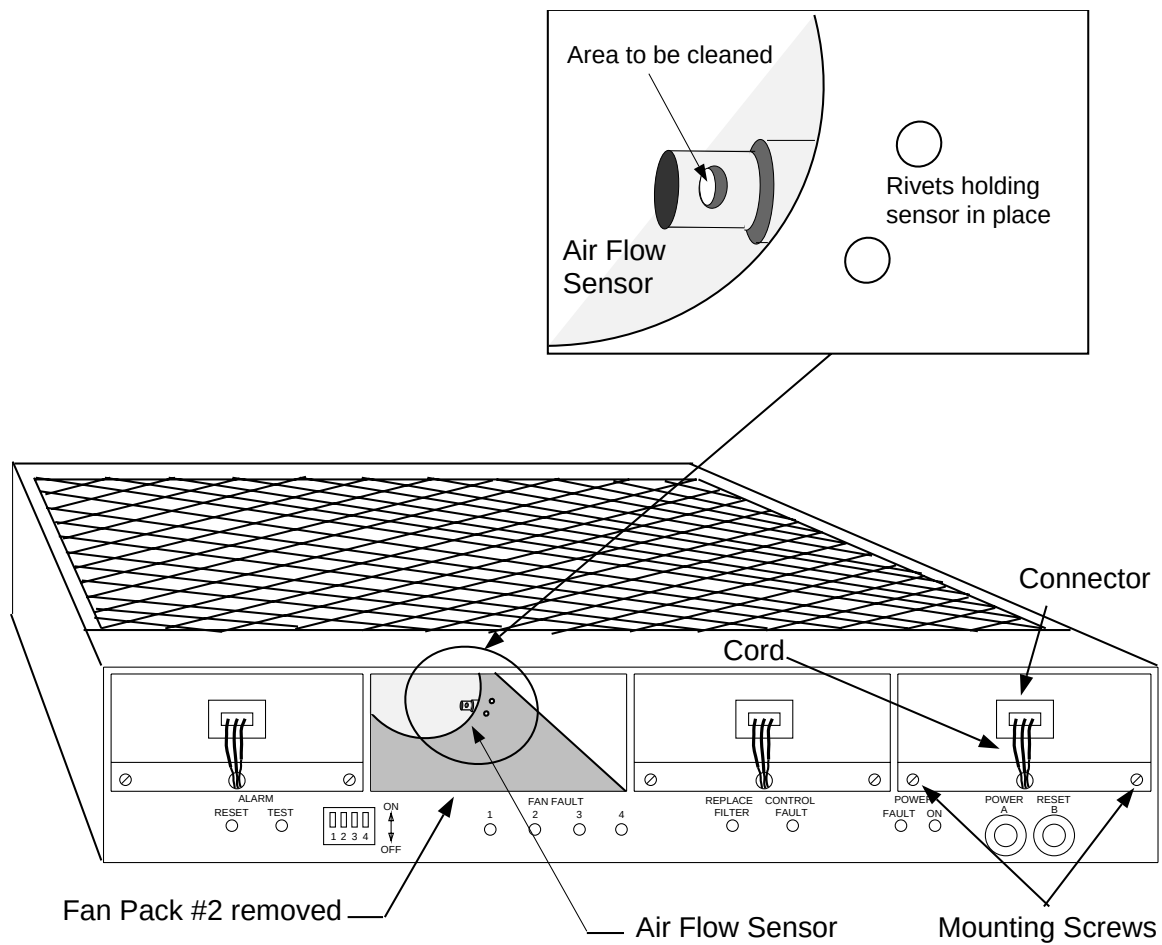

Figure 2. DDM-2000 Fan Shelf — Air Flow Sensor Location
- Remove fan pack #2. See Figure 2.
29. Locate air flow sensor (Figure 2) and direct a gentle blast of clean dry air toward the center of the vertical sensor orifice.